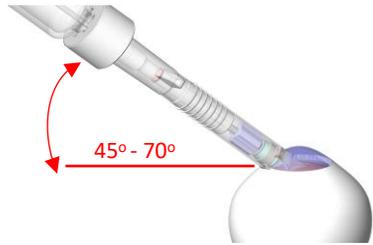

Figure 14
1. Insert the Injector Tip through the limbal incision. The angle between the Injector and the iris plane should be maintained at about 45° to 70° (Figure 14).
The Injector wings should be positioned horizontally with the UP sign on the Injector wings facing up (Figure 14).
2. Bring the Injector Tip to the capsulorhexis plane. Verify the position by gently altering the syringe tilt until you are sure that the angulated edge of the Injector Tip is completely inside the bag (Figure 14).